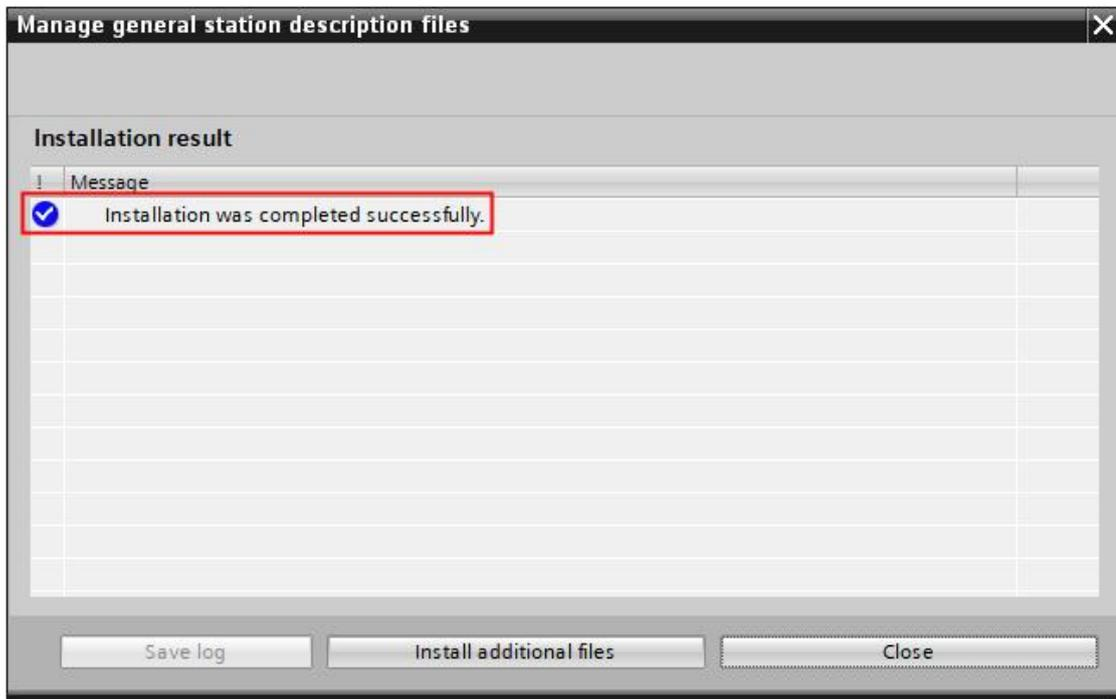

Figure 7: GSD file installation completed
2.3 After the installation is complete, the pop-up window will display the installation result as shown in Figure 7. Please keep the installation file on hand since it needs to be used to delete the GSD.